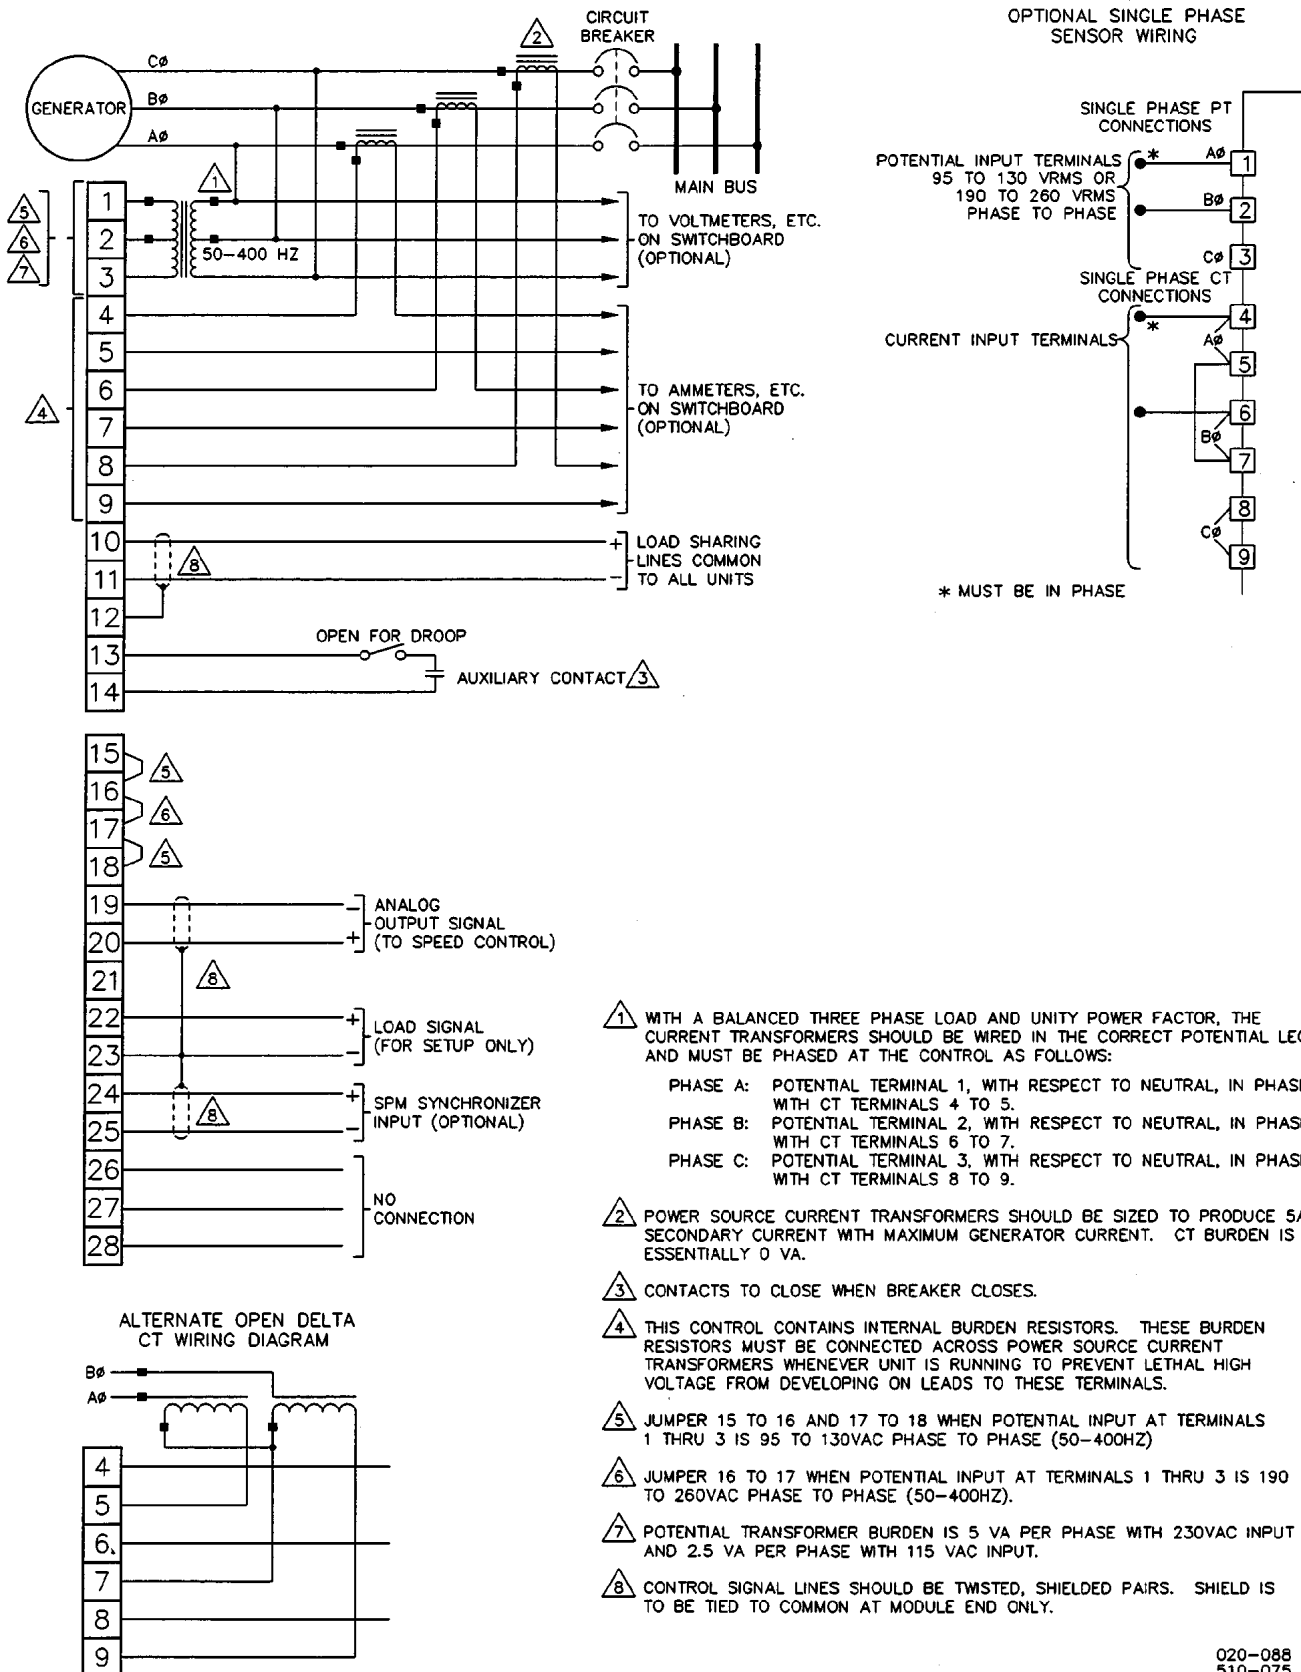

Figure 1-3. Plant Wiring Diagram
Figure 1-3 is the plant wiring diagram for the Load Sharing Module. This drawing shows the connections that must be made to this unit, but does not show the actual wiring for a particular system. For this information, see the plant wiring diagram for your specific system. Woodward manual 25070, *Electronic Control Installation Guide*, also contains general information on wiring for electronic controls.
Some of the wiring to the Load Sharing Module must be shielded, twisted-pair. These wires are shown in Figure 1-3. The shielding prevents the wires from picking up stray signals which could cause erratic control operation. Ground the shield to the system common as shown in the plant wiring diagram (pin 12 on this control). The shield on a length of shielded wire must be connected to common at one end only; do not ground the shields on both ends of a wire. Do not run a shielded wire inside a conduit with a wire which is carrying high current. Do not attempt to tin the braided shields.
1. Check that the correct jumpers are installed on terminals 15, 16, 17, and 18 to match your potential transformer secondary voltage. See the plant wiring diagram (Figure 1-3).